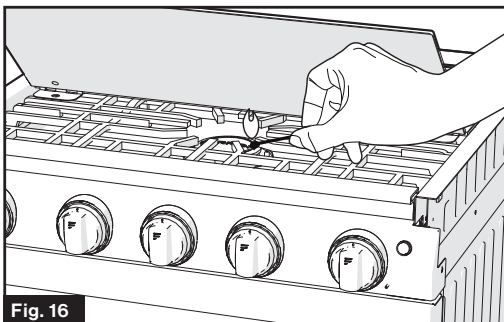

Fig. 16
2. Immediately strike and place a burning long wooden match or a gas lighter near the burner to light. (Fig. 16)